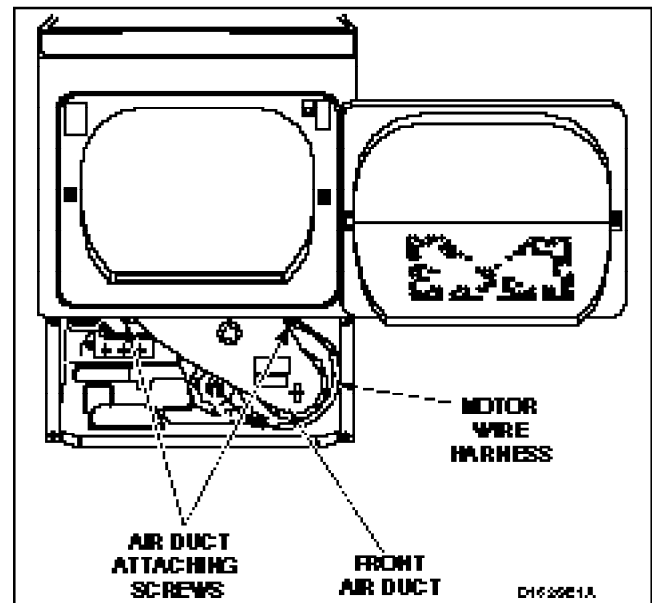
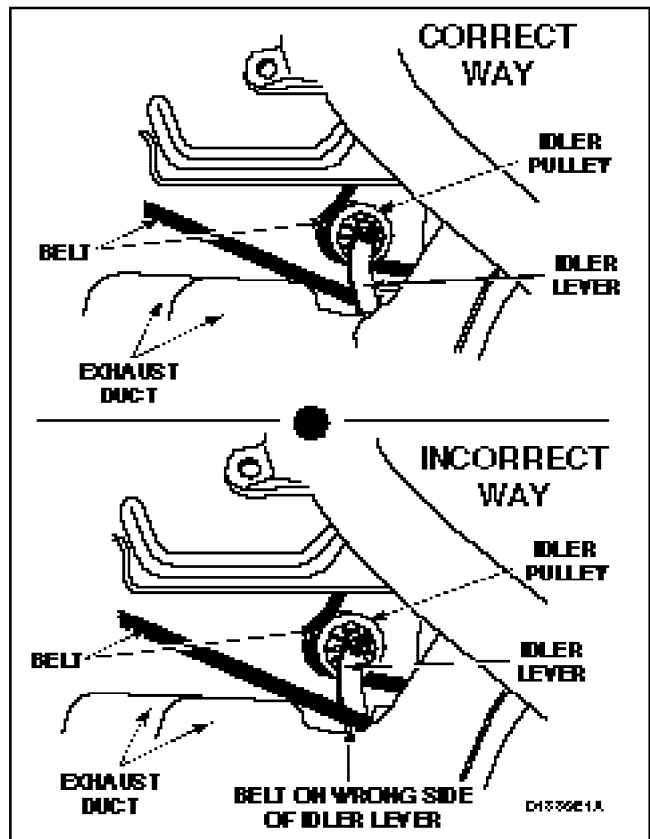

Figure 28
Figure 30
- Remove two screws holding duct to front bulkhead and remove air duct, *Figure 28*.
- Remove screws holding air duct to front bulkhead and remove air duct, *Figure 28*.
- Remove cylinder belt from idler and motor pulleys, *Figure 30*.
IMPORTANT: When reinstalling motor and exhaust assembly, be sure wire harness on right side is clipped to motor mounting bracket and is routed along dryer base (between motor mounting bracket and right side of cabinet), *Figure 28*. Tab on rear of motor mounting bracket must be slid into slot in dryer base. Be sure the belt has been installed on the correct side of the idler lever, *Figure 30*.